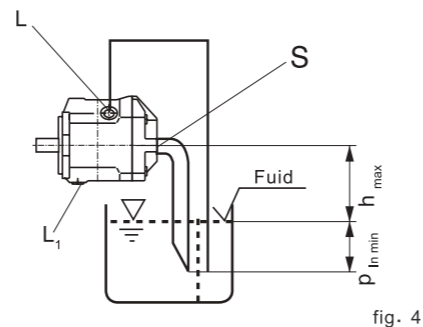

fig. 4
- b) When the minimum fluid level lies under the pump upper edge then: drain port L₁, L and possibly port S has to be piped, see fig. 4. Conditions are as per in section 1.2.1.
- a) For installation above a tank see fig. 4.